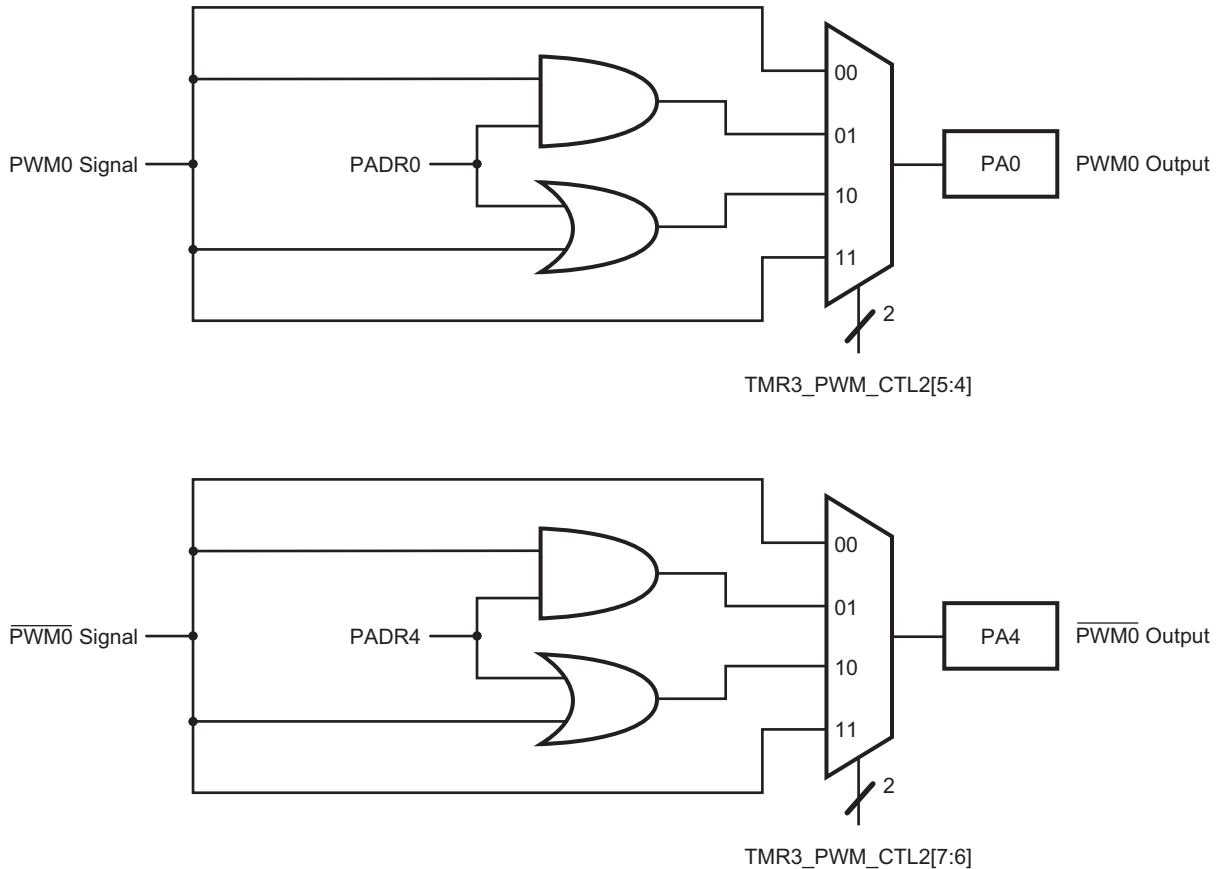

Figure 32. PWM AND/OR Gating Functional Diagram
The AND or OR functions are enabled on all PWM outputs by setting TMR3_PWM_CTL2[AO_EN] to either a 01b (AND) or 10b (OR). Any other value disables this feature. Likewise, the AND or OR functions are enabled on all PWM outputs by setting TMR3_PWM_CTL2[AON_EN] to either a 01b (AND) or 10b (OR). Any other value disables this feature. A functional block diagram for the AND/OR gating feature for PWM0 and PWM0 is illustrated in Figure 32. The functionality for the other three PWM pairs is identical.